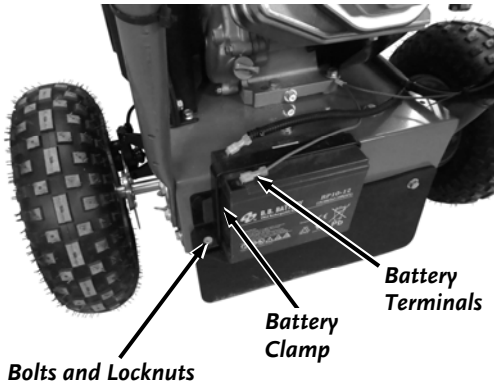

Figure 49
1. Disconnect the Battery Terminals (**Figure 49**).